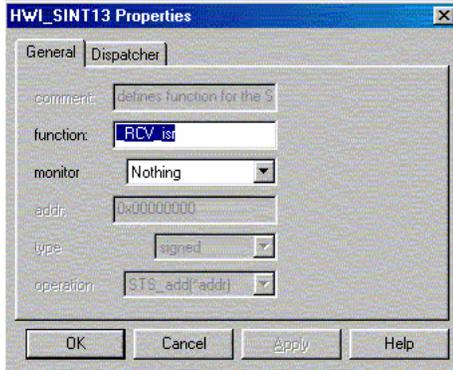

Figure 26. HW SINT13 General Tab
2. Right click on HWI_SINT13 and select properties. The *General Tab* is visible; type the name of the ISR to have called when the interrupt occurs. In this application, type `_RCV_isr`, as shown in Figure 26. Whenever a function is typed into the configuration tool, the label must be preceded with an underscore.